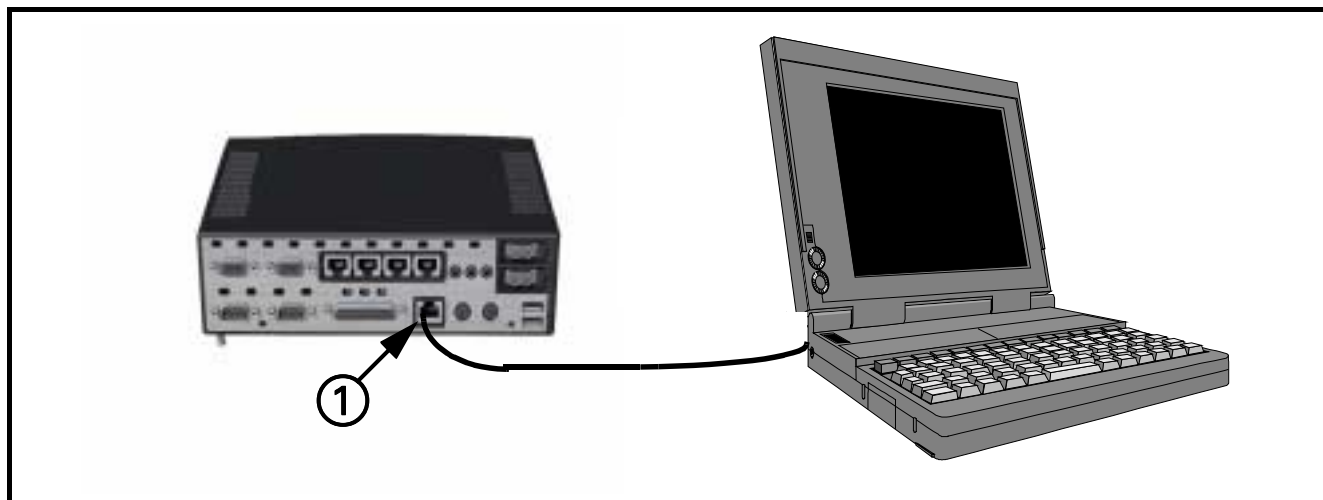

Figure 8-11 MDS, Laptop Hardware Connection
- 1) Connect Crossover Cable from Laptop Network Interface Card Ethernet Port to MDS Main Ethernet Port (① in Figure 8-11).